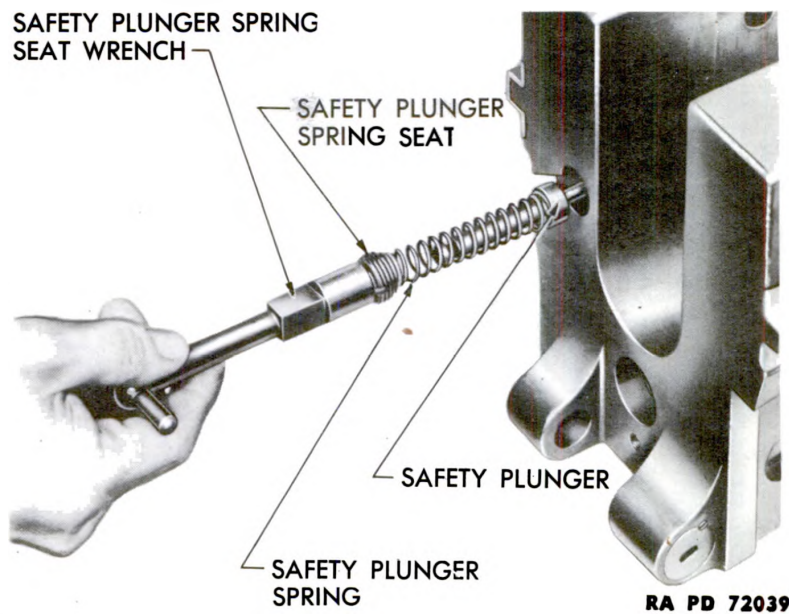

Figure 147 – Breech Ring Safety Plunger – Disassembled
b. **Breech Ring Safety Plunger and Spring.** Unscrew the safety plunger spring seat by inserting the teats of the safety plunger and spring seat wrench in the slots of the seat and turning the seat counterclockwise. This seat is staked in position by having some of the metal of the breech ring driven into its slots. It must be worked out of its threaded bore carefully with short counterclockwise and clockwise twists to prevent damage to the seat or wrench. Remove the seat, safety plunger spring, and safety plunger (fig. 147). Replace defective parts with new ones, install, and stake.